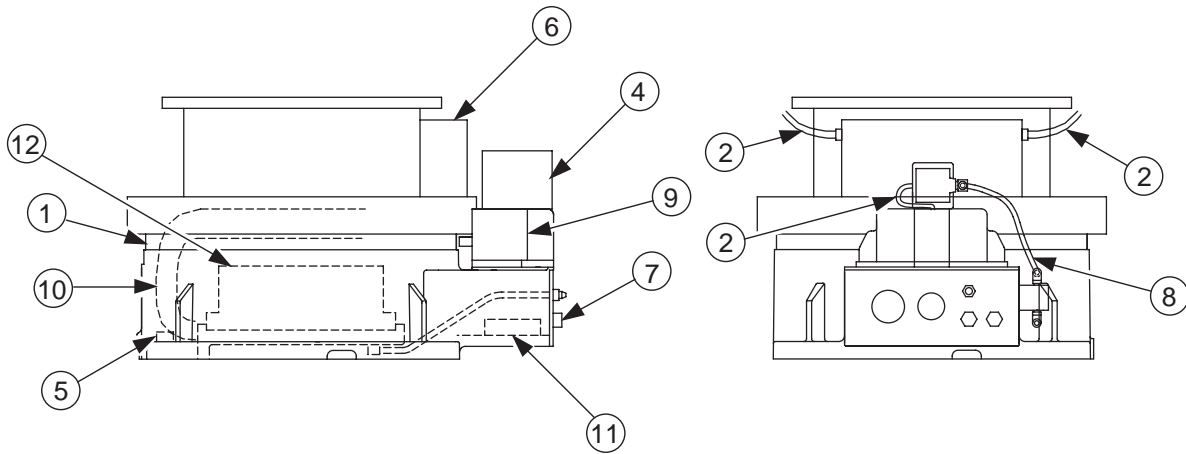

Fig. 17 Inspection Parts and Inspection Numbers
- *4 Inspection No. correspond to the numbers in " Fig. 17 Inspection Parts and Inspection Numbers ".